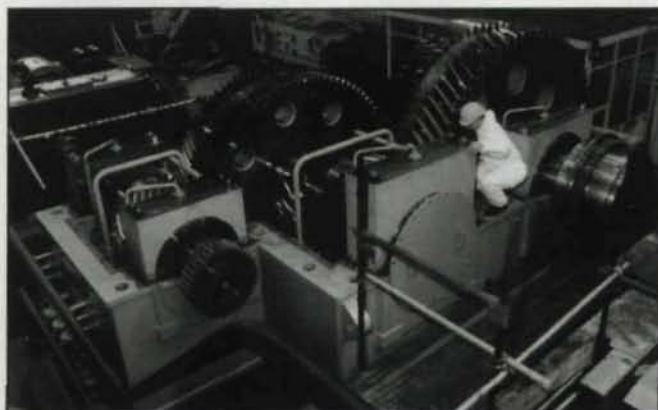

Fig. 24—Steel mill applications.
- Steel mill applications in both rolling mill main drives (Fig. 24), and in shear applications (Fig. 25) where each tooth frequently feels heavy shock loads, as well as coiler/uncoiler boxes.